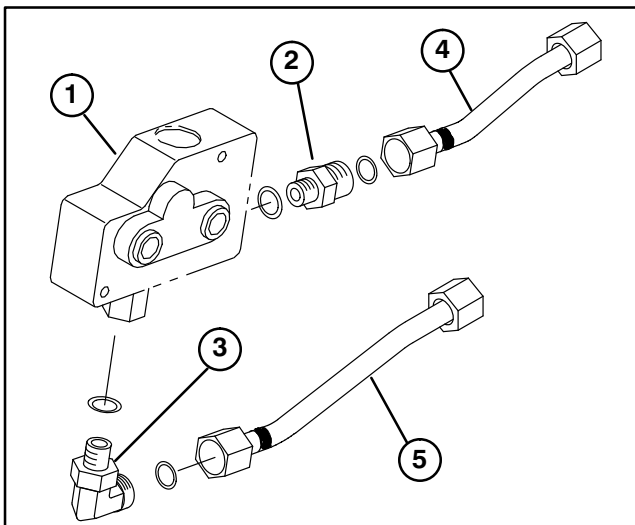

Figure 9
5. Loosen (2) capscrews securing lift valve to frame channel (Fig. 9).
7. Install new straight fitting and O-ring into rear of lift valve (Fig. 9).
10. Install new elbow fitting and O-ring into bottom of lift valve (Fig. 9).
11. Loosely install shorter hydraulic tube to straight fitting on rear of lift valve (Fig. 9).
12. Loosely install longer hydraulic tube to elbow fitting on bottom of lift valve (Fig. 9).